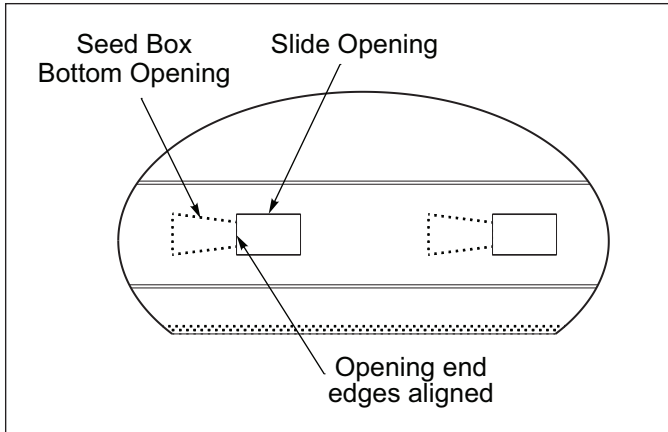

Figure 4-8: Shifter Handle Set at “0”
- When the Shifter Handle is set to “0” (closed), the Agitator Box bottom opening end edge is aligned with the Slide opening end edge. See Figure 4-8.